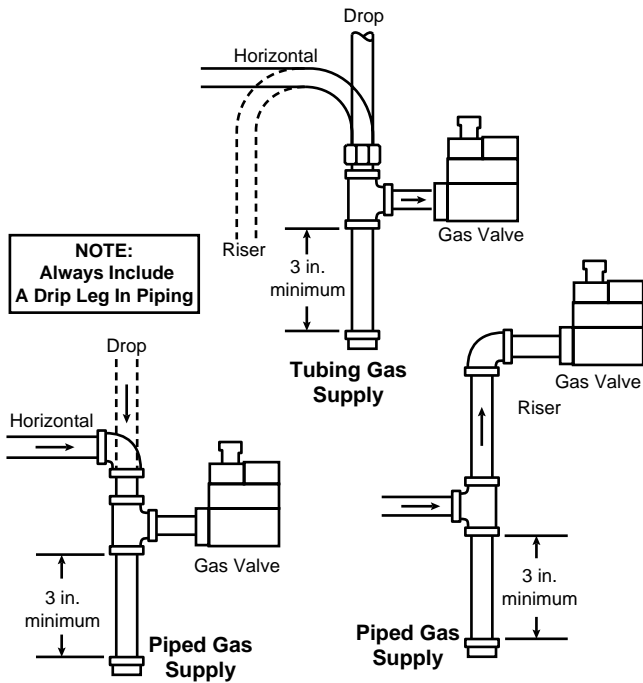

Figure 1. Typical gas valve piping
5. Apply pipe joint compound (pipe dope) or teflon tape that is approved for all gases, only to the male threads of the pipe joints. DO NOT apply compound or teflon tape to the first two threads (see fig. 1 for typical piping connections).